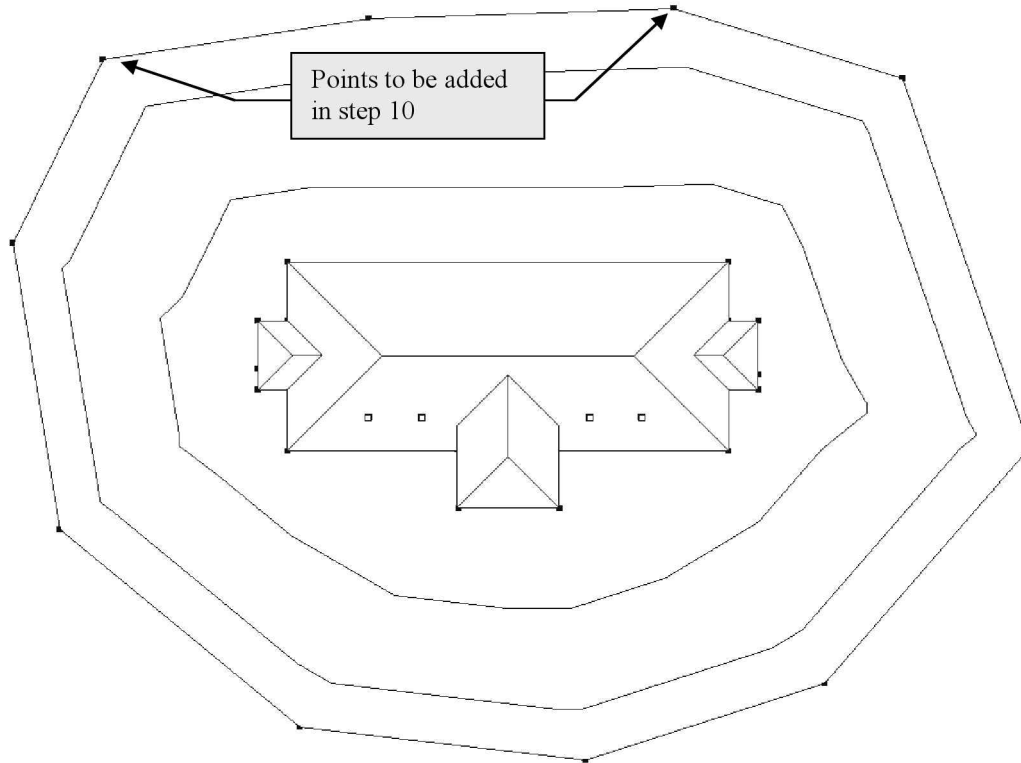

Figure 13-1.6 Site plan view – 10 points to be selected (elev – 2'-6")
10. Set the **Elevation** to **-2'-6"** and point to the ten points shown in Figure 13-1.6 which define the extents of the *Toposurface*.